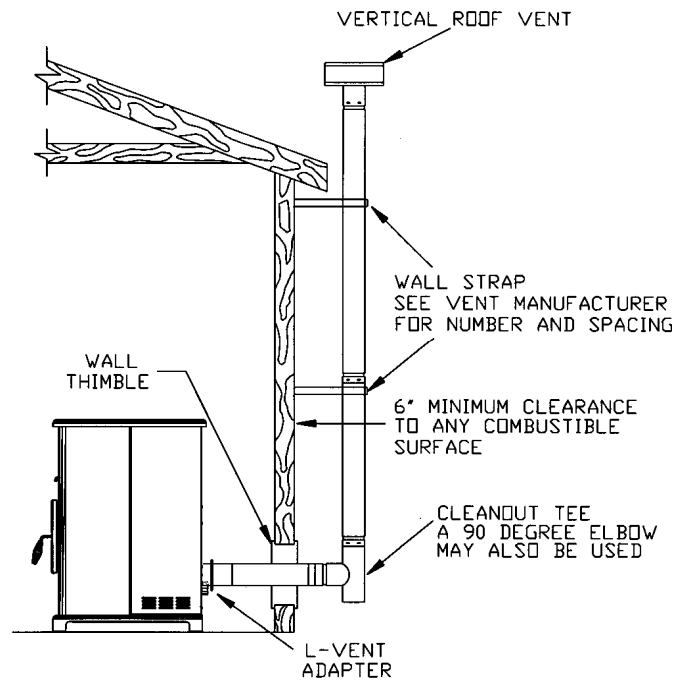

FIGURE 5
A. HORIZONTALLY THROUGH WALL (refer to Figure 5)